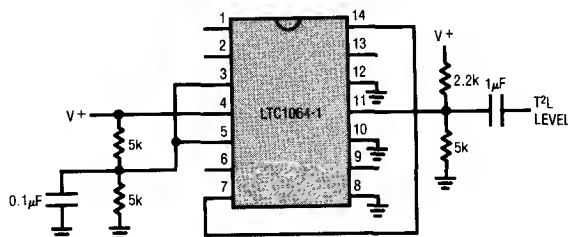

Figure 3. Level Shifting the Input T2L Clock for Single Supply Operation, V+ > 6V
2.2V and 3V respectively. The logic threshold levels vary  $\pm 100mV$  over the full military temperature range. The recommended duty cycle of the input clock is 50% although for clock frequencies below 500kHz the clock "on" time can be as low as 200ns. The maximum clock frequency for  $\pm 5V$  supplies is 4MHz. For  $\pm 7V$  supplies and above, the maximum clock frequency is 5MHz. Do not allow the clock levels to exceed the power supplies. For clock level shifting, see Figure 3.